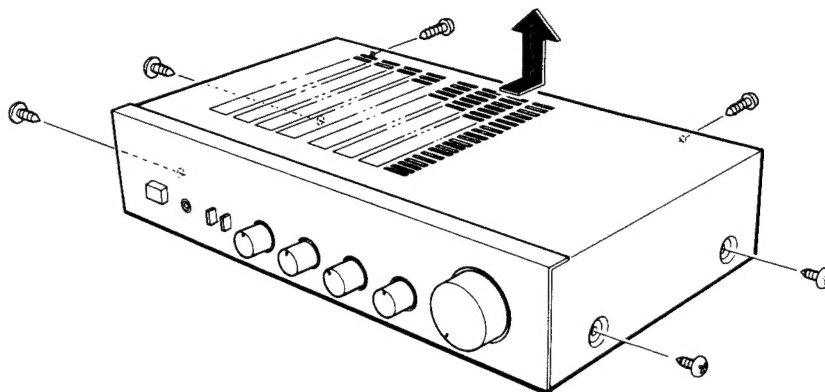

Fig. 5
1. How to remove top cover (Fig. 5)